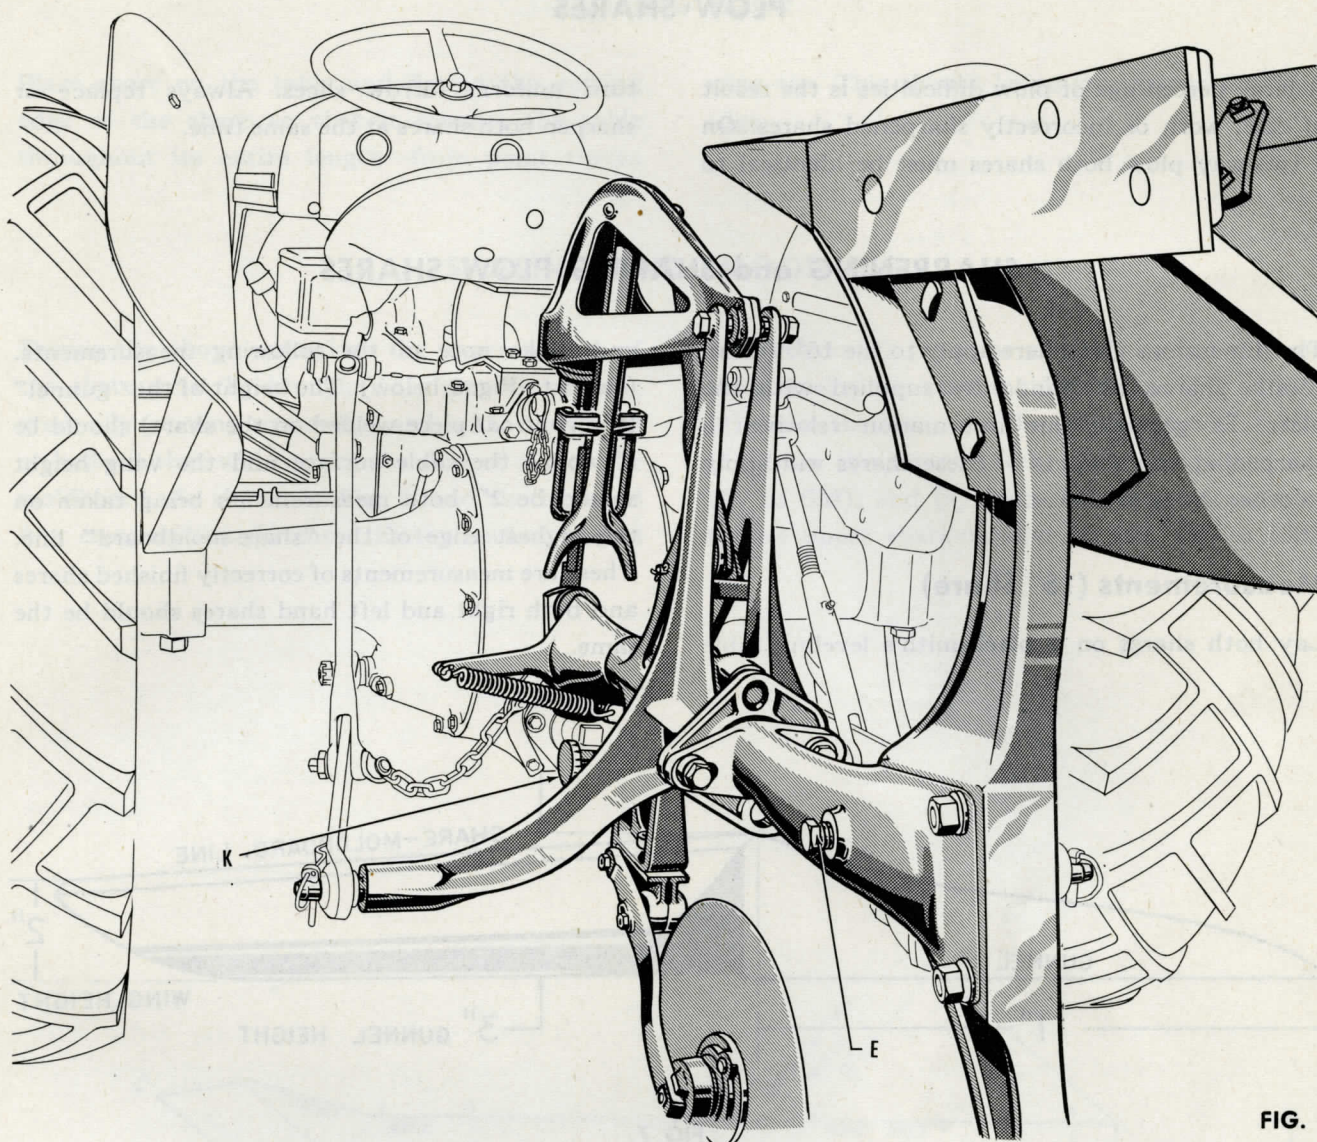

FIG. 6
5. Adjustment for width of cut is made at E, Fig. 6. For wider cut screw out. For narrower cut screw in. Keep this adjustment tight. If, after this adjustment, one base cuts wider than the other, both cuts may be equalized by simply turning the leveling crank.
6. Adjustment of the coulter cut in relation to the furrow wall is made at K, Fig. 6. On the left side for right plow, on the right side for left plow. Screw out for narrow cut and in for wider cut.